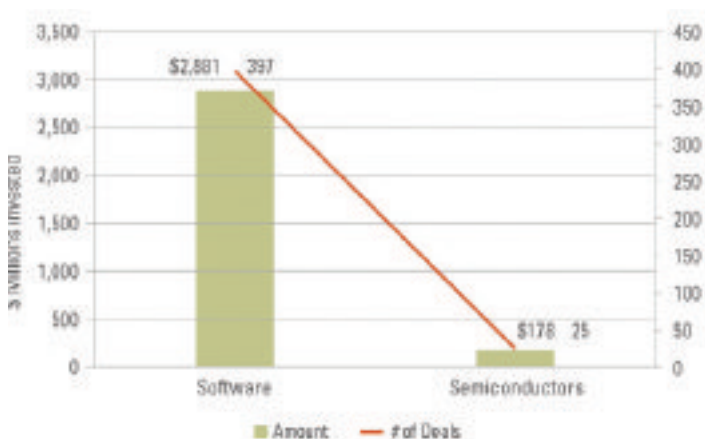

FIGURE 6. Funding of software and semiconductor start-ups. Source: PwC, US Investments by Industry/Q4 2013.
The main reason for the decline is the attractiveness of other businesses for the same investment. In the fourth quarter of 2013, nearly 400 software start-ups received almost \$3 billion of funding, whereas only 25 semiconductor start-ups received just \$178 million (representing all stages) (FIGURE 6). It seems that (1) the lower cost of starting a software company, (2) the relatively short time frame to realize revenue, and (3) attractive initial-public-offering and acquisition markets possibly make the software start-up segment more interesting than semiconductors .